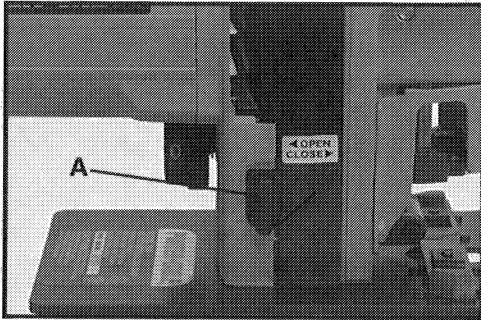

Fig. 9
These saws are equipped with a chip blower to keep the cutting area free of chips. This blower may be switched "ON" or "OFF" by moving lever (A), Fig. 9, to the "OPEN" position (blower "ON") or the "CLOSED" position (blower "OFF").